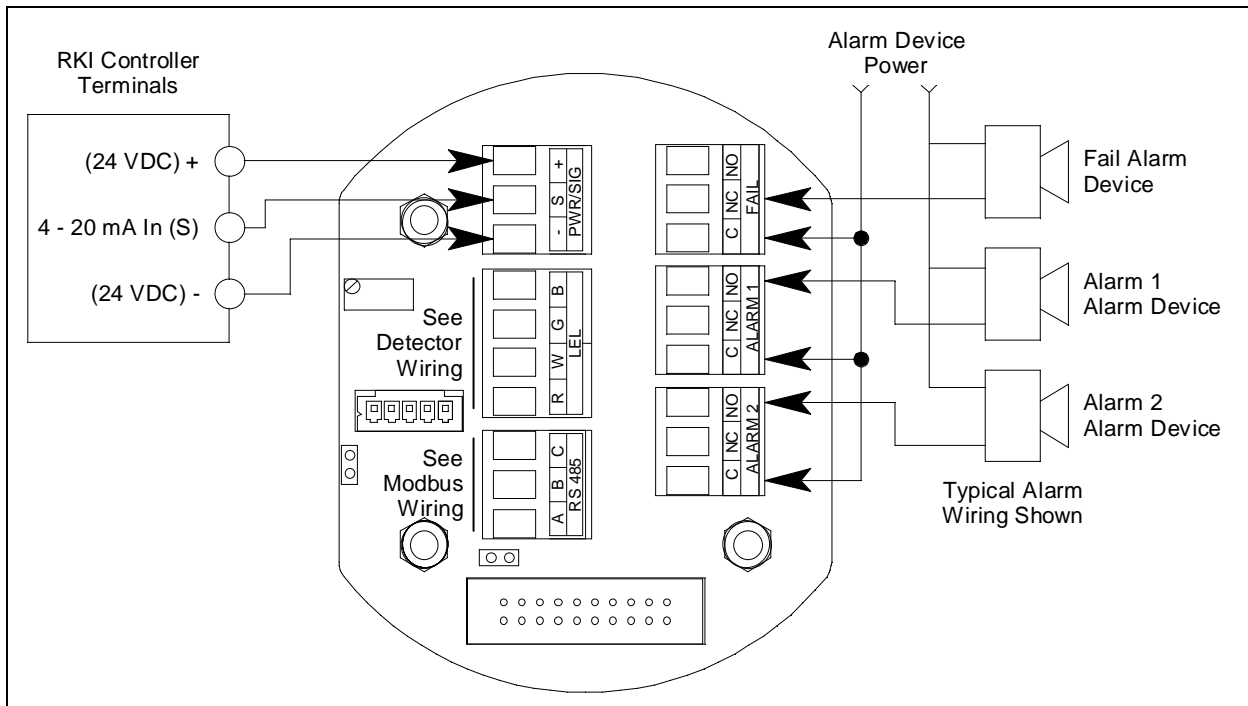

Figure 8: Wiring the M2A Junction Box to a Controller and Alarm Devices
- If the M2A will be wired into a Modbus network, see “Chapter 8: RS-485 Modbus Output” on page 40. See Figure 8 below for field wiring connections to the M2A.